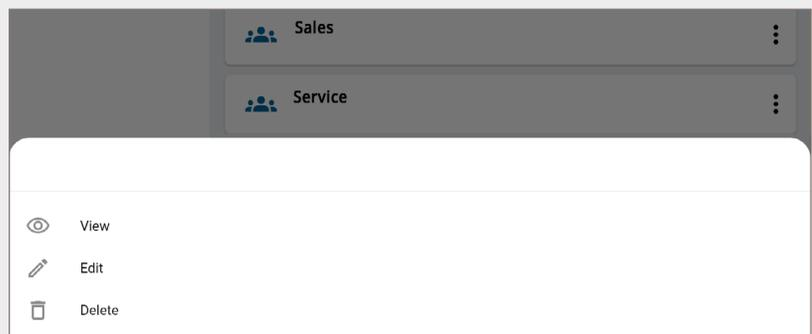

Fig. 228 – Admins screen – Access Groups tab – quick action menu
3. **Quick action menu:** Select **menu**  to open the **quick action menu** shown in Fig. 228.
Selecting **menu**  on the **Access Groups** tab of the **Admin** screen opens the **quick action menu**, as shown in Fig. 228.